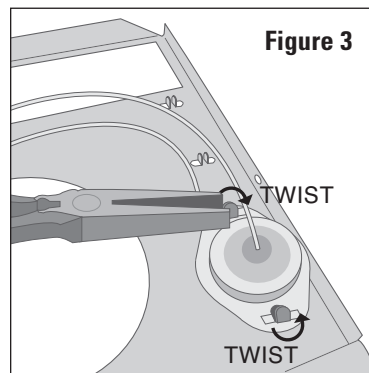

Figure 3
8. Twist tabs that reset approximately 90 degrees. This will allow the reset to easily slip out of place (See Figure 3).